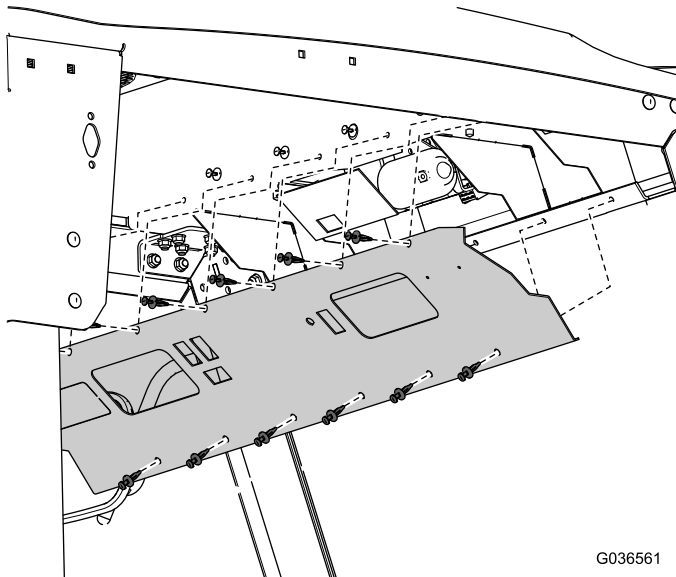

Figure 1
4. Remove the front panel (Figure 1).